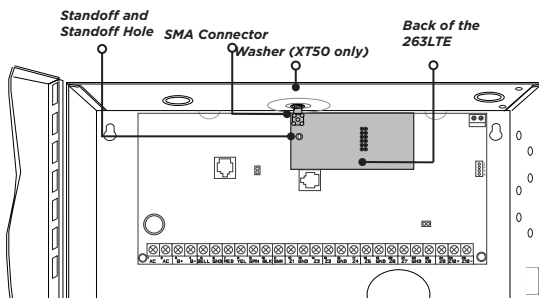

Figure 2: 263LTE on an XT30/XT50 Panel
3. Align the 263LTE SMA antenna connector with the antenna hole in the top of the panel enclosure, place one washer around the connector, and secure it on the 12-pin cell module connector. See Figure 2.